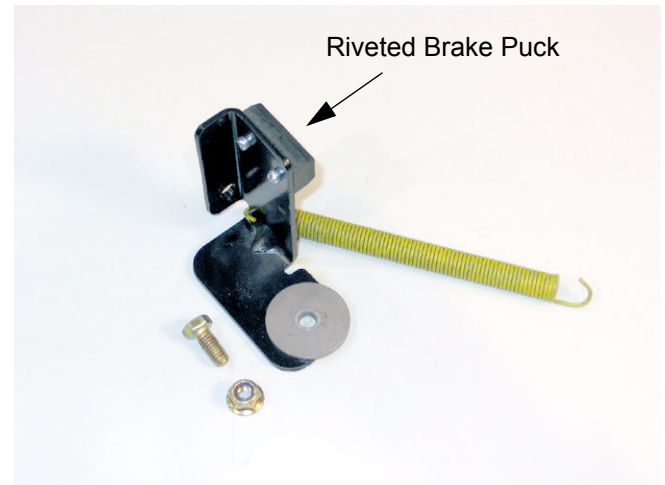

Figure 14
- 4.2. Using a ½ inch socket and a ½” wrench remove the brake assembly bracket. Inspect the brake puck for wear or damage. The brake puck is riveted to the bracket and must be replaced as an assembly. See Figure 14.